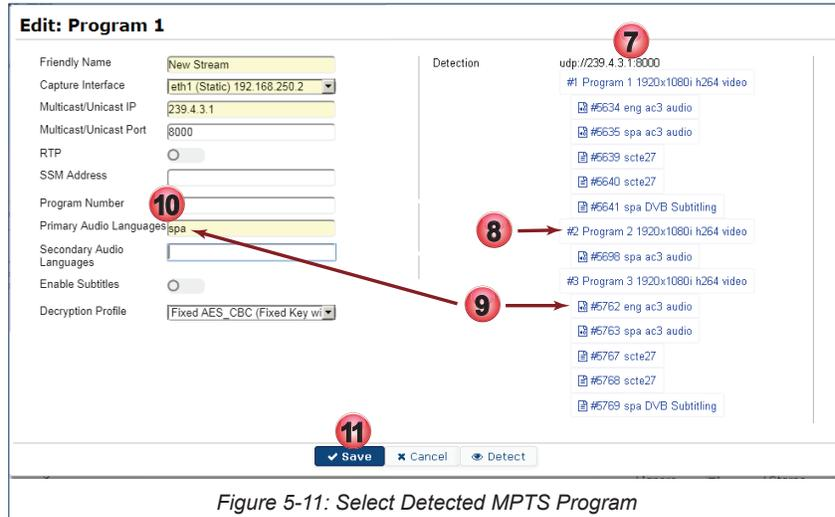

Figure 5-11: Select Detected MPTS Program
7. The programs detected within the stream, if any, are listed along with languages available, Figure 5-11.